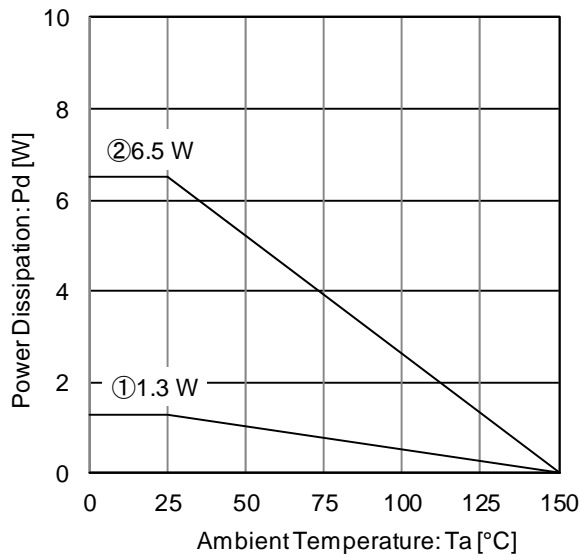

Figure 44. Package Data
Refer to the heat mitigation characteristics illustrated in Figure 44, 45, 46, 47 when using the IC in an environment of $T_a \geq 25^\circ\text{C}$. The characteristics of the IC are greatly influenced by the operating temperature, and it is necessary to operate under the maximum junction temperature $T_{j\text{max}}$.
At $T_a = 105^\circ\text{C}$ with Figure 44 condition②, the calculation shows that 275 mA of output current is possible at 8.5 V potential difference across input and output.
At T_c (bottom) = 125°C with Figure 44 condition②, the power consumption P_c of the IC can be calculated as follows: